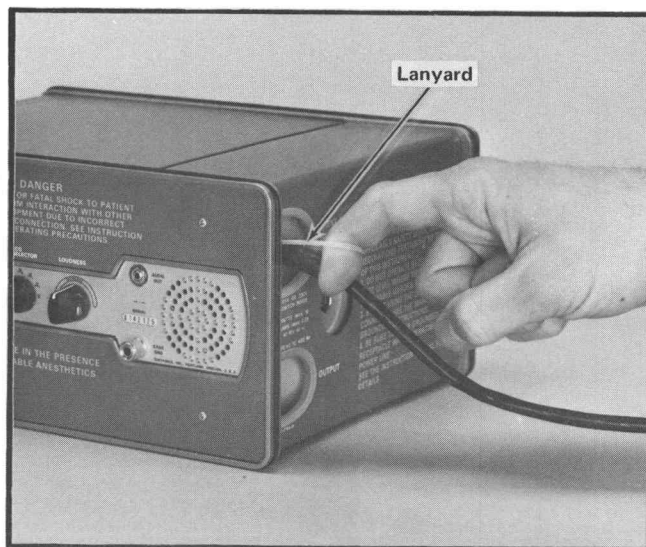

Fig. 2-11. Removing Patient Cable.
7. Connect the Patient Cable by positioning the color stripe on the Patient Cable plug to the keyway on top of the receptacle. Push the plug firmly into the receptacle. The plug will lock (color ring will show when locked) into the receptacle and may be removed only by pulling on the lanyard connected to the plug. The plug cannot be removed by pulling on the Patient Cable. See Fig. 2-11. Connection and removal will normally be done with the cover in place.